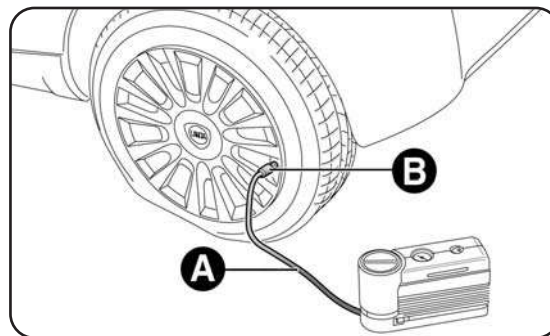

fig. 4
- Engage the handbrake. Unscrew the tyre valve cap, take out the filler hose A - fig. 4 and tighten the ring nut B on the tyre valve;